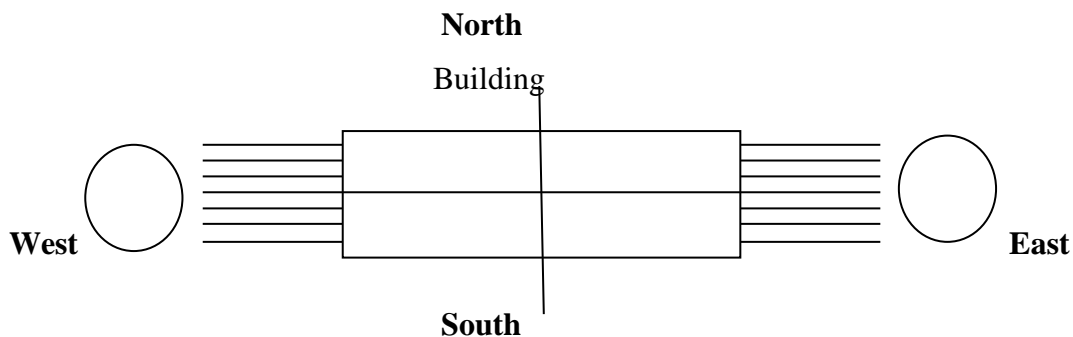

FIG. 2
- (i) Long walls of the building should face north and south, short walls should face east and west (**FIG. 2**)